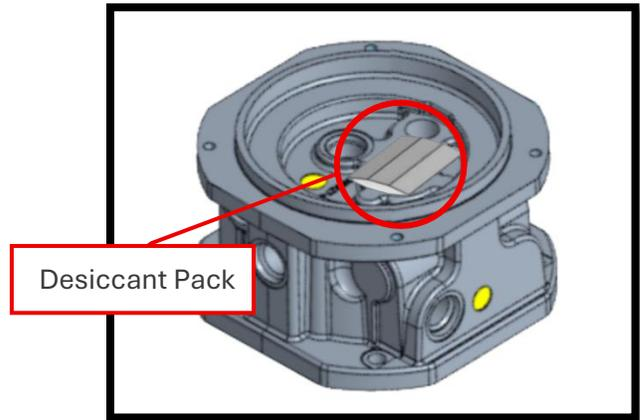

Figure 10: Install desiccant packet
3. Place a desiccant packet on the end cover of the meter to help prevent moisture buildup (refer to Figure 10).